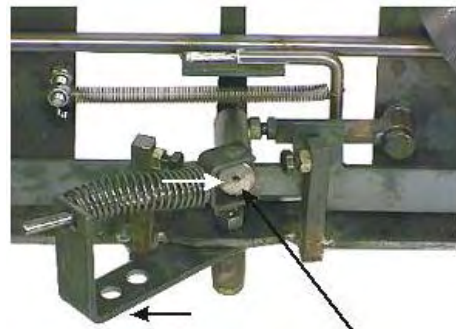

Figure 25. The splitting mechanism back in the initial position
5. Once the splitting beam returns to the initial position, the valve lever E turns to the left and the spring presses the jointed lever A to the right. The returned trigger rod C stops the jointed lever A in the middle position halting the splitting motion. (Figure 25.)